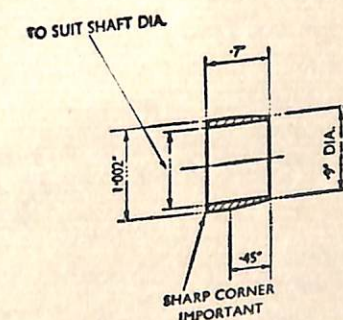

FIG. 79.
7. With the rotor in position in the body, the end covers should be slipped over the shaft ends and pushed home, taking care that the sealing plate peg fits in one of the sealing plate springs. During this operation a protecting sleeve as shown in Fig. 79 must be used to prevent the seal edges being damaged by the seal collars.